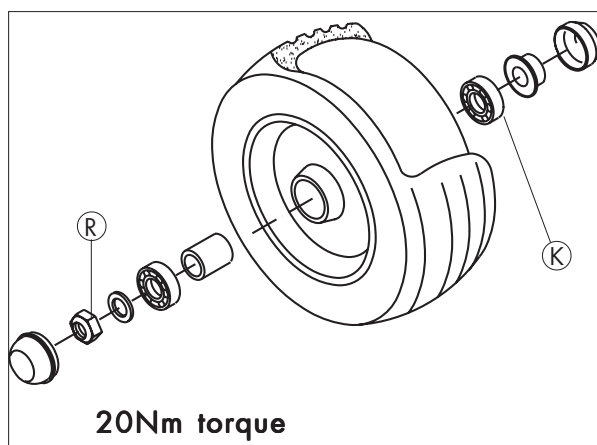

Fig. 2-7
Mount the 16" wheels as shown in fig. 2-7.
The wheel nut (R) may only be tightened with a torque of 20 Nm to avoid damaging plastic ring (K) (fig. 2-7).